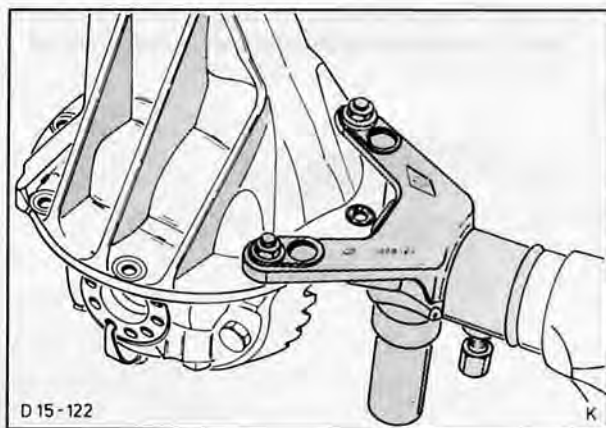

Fig. 98. Differential assembly in mounting bracket 16-009 on stand
1. Mount differential assembly on stand, Fig. 98.